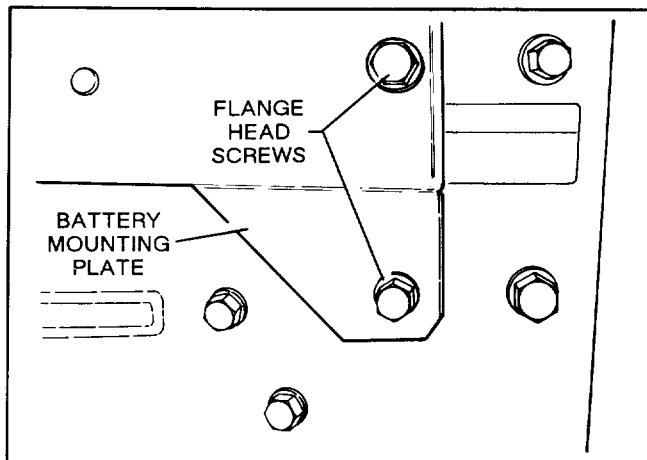

Figure 10
11. Secure front of battery mounting plate to engine frame and idler assembly with two 25 mm (1" ) lg. flange head capscrews (Fig. 10).